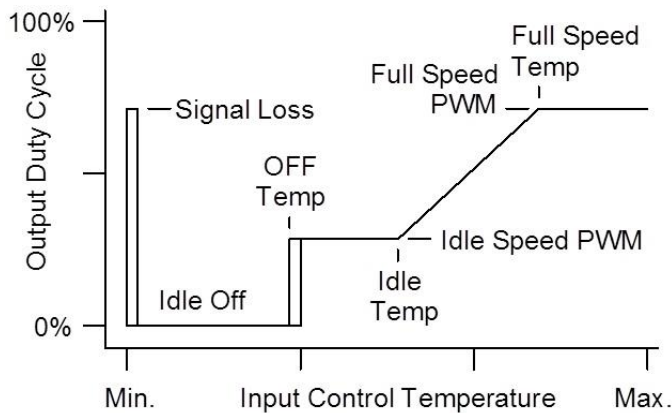

Figure 3: Fan speed signal vs. sensor temperature.
5) The Speed on signal loss menu is used to set a fail-safe fan speed in case the control signal is lost. At this point, it is highly recommended that you start drawing your desired control curve to help identify the programmable variables to follow (refer to figure 3 to model your control curve).